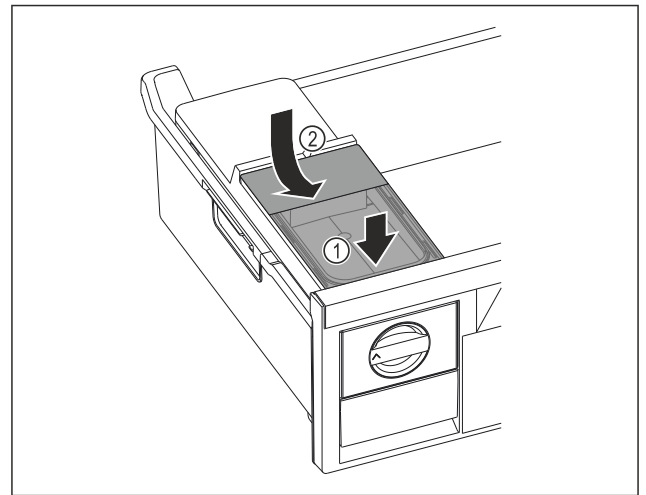

Fig. 153
- ▶ Position the water tank at the front. Fig. 153 (1)
- ▶ Lower the water tank at the rear. Fig. 153 (2)